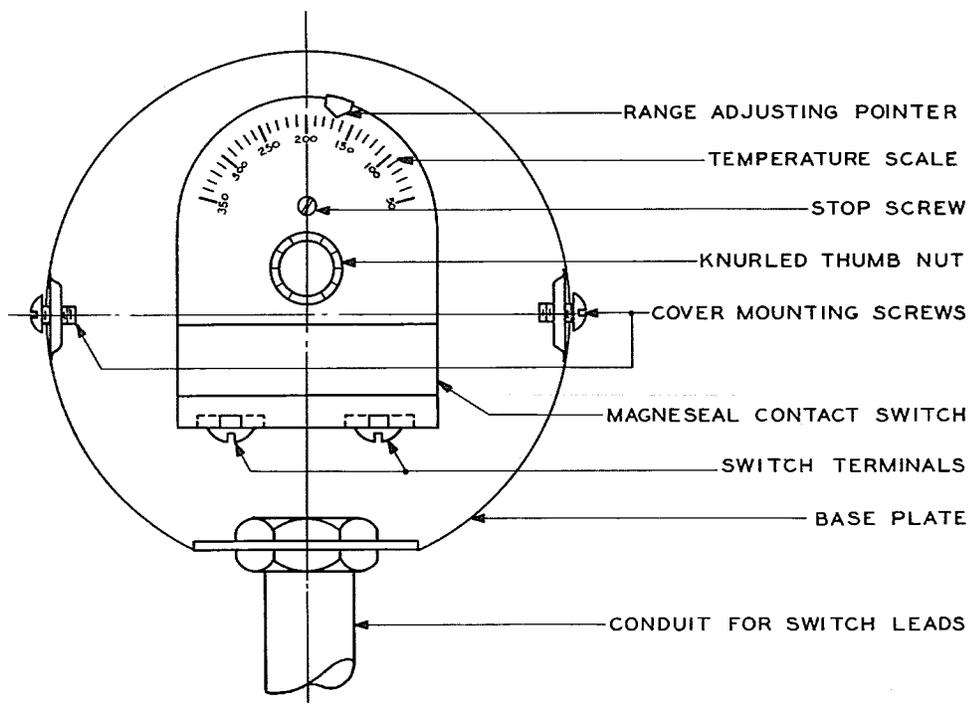

Fig. 16 - Water Heater Thermostat - Cover Removed
(1) To obtain access to the adjusting means for adjustment of the cooling water heater circuit, remove the cover of the water heater thermostat (see Fig. 16) after first removing the two screws holding it in place. This will make the range adjusting pointer accessible. Then remove the HEAT & FAN 1 & 2 fusetrons at the main control cabinet.
(2) To set the opening point of this control, loosen the knurled thumb nut and move the range adjusting pointer along the temperature scale dial to the desired calibration. When reached, hold the pointer in position and lock by tightening the knurled thumb nut.
(3) The closing point is factory set and is not adjustable in the field. This point is set